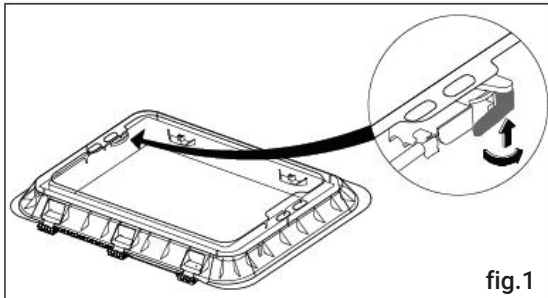

fig.1
1. Press the handle knob and rotate it 90° (see Figure 1).